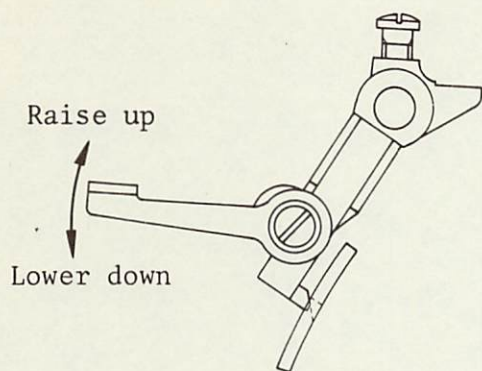

Fig.25
- \* The relationship between the thread releasing timing and the needle thread is shown below. (Fig.25)